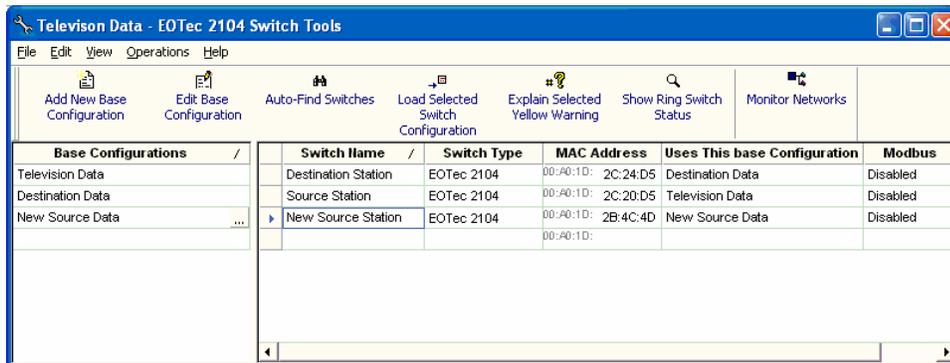

Figure 4.8
- The integrator saves the Project File and then loads each switch by clicking **Load Selected Switch Configuration** for each switch shown in Figure 4.8. (Make sure to highlight the row of the switch that is to be loaded).